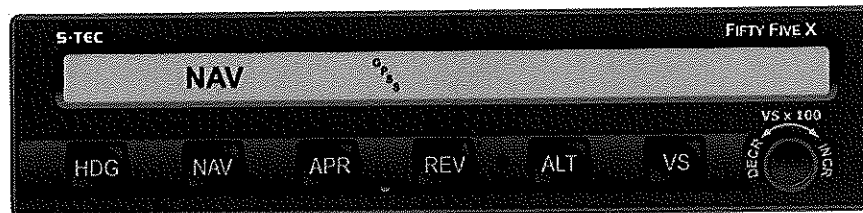

Fig. 3-9. AP Display, NAV GPSS Mode Engaged
Program a predefined course into the GPS Navigation Receiver, comprised of course segments connected by waypoints. Press the NAV mode selector switch twice to engage the navigation global positioning system steering mode, unless the navigation mode is already engaged. In the latter event, only press the NAV mode selector switch once. The NAV and GPSS annunciations will appear as shown in Fig. 3-9, to acknowledge that this mode is engaged. The autopilot will laterally steer the aircraft along the predefined course, and limit its turn rate to either 130% of a standard rate turn (Programmer/Computers with Hardware Mod Code AM and below) or 90% of a standard rate turn (Programmer/Computers with Hardware Mod Code AN and above). During this mode of operation, the autopilot will not accept any course error input from the Course Pointer (HSI) or Heading Bug (DG).